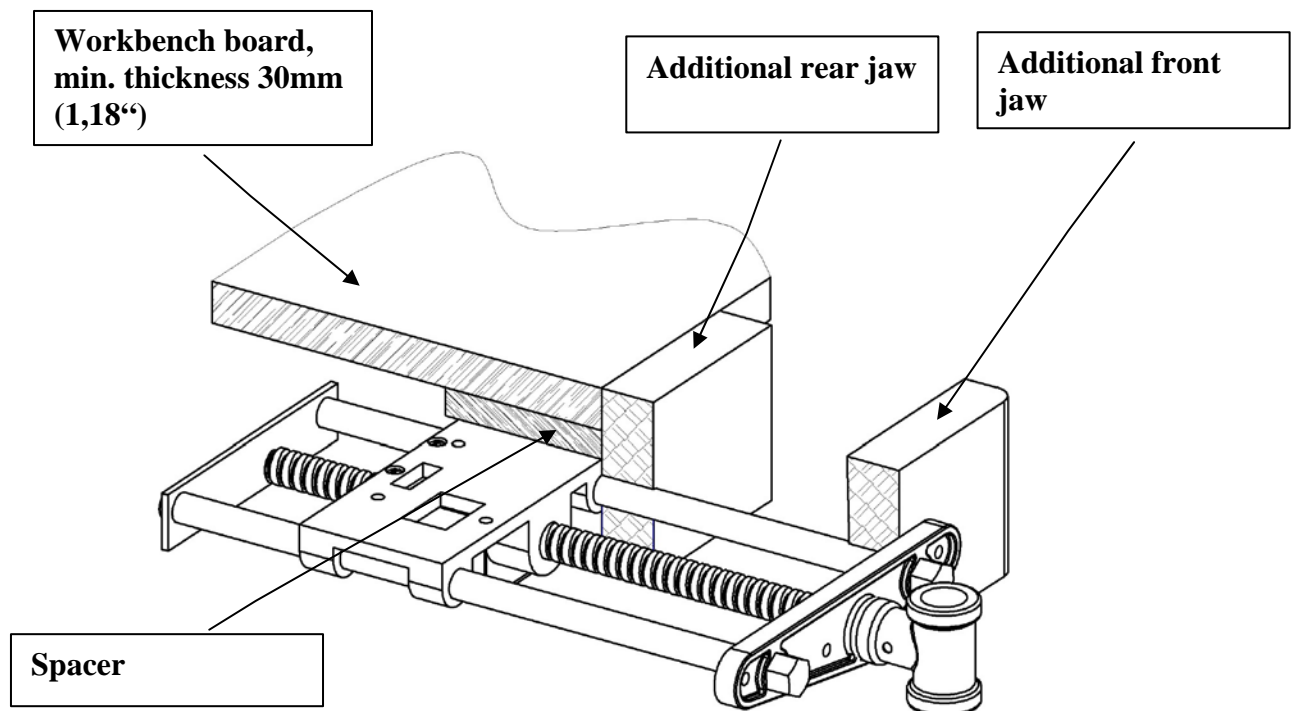

Fig. 2a
The wood vice is mounted to the underside of a workbench flush with the outside edge. The exact position is selected depending on the design of the workbench and HV vice size. We recommend positioning the HV vice in one of the workbench's corners, while taking into account the free movement of guide rods (5) especially in the vice's end positions. The most common HV vice installation is illustrated in Fig. 2a, 2b, 2c.
#### Installation on workbench with additional rear jaw - Fig. 2a